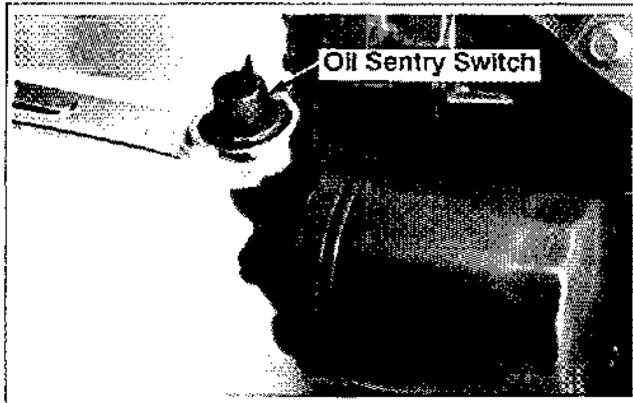

Figure 9-14. Removing Oil Sentry.
2. Remove Oil Sentry™ switch from the oil filter adapter. See Figure 9-14.